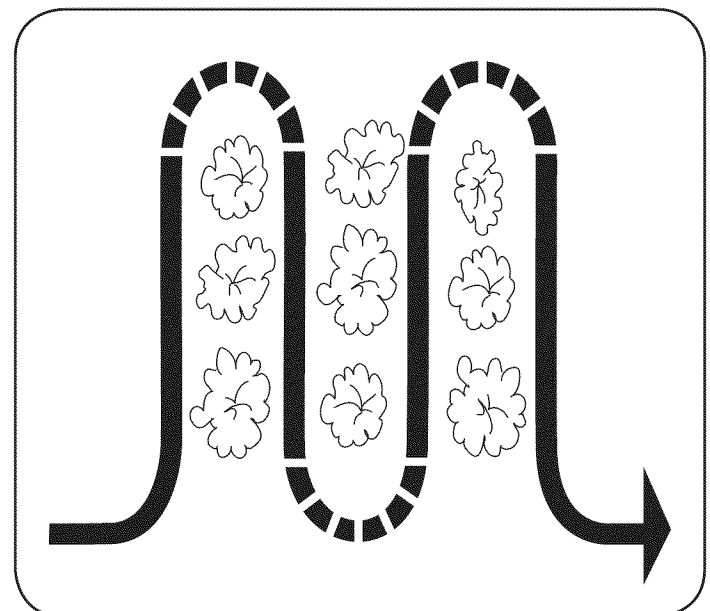

Figure 12
- When cultivating (breaking up the surface soil around the plants to destroy weeds, See Figure 12), adjust the tines to dig only 1"